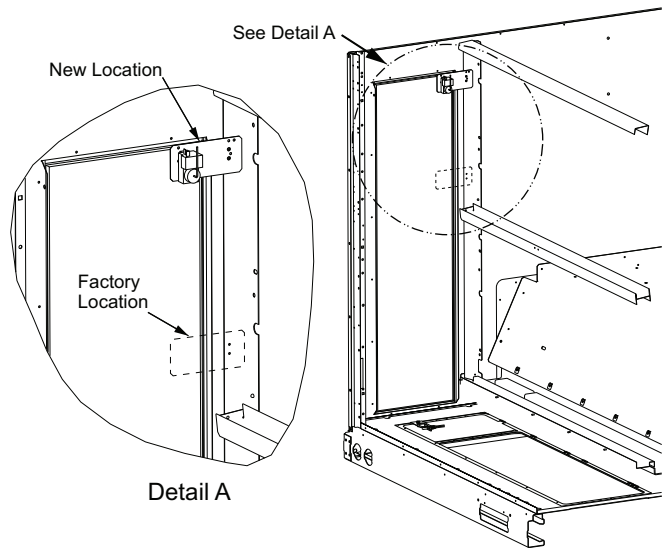

Fig. 5 — Mixed Air Temperature Switch Relocation for Horizontal Units
9. For horizontal installations — Locate Mixed Air Temperature Switch (MTS) with its bracket on left side of the unit. Remove left filter to access MTS bracket screws. Remove screws and relocate the bracket with MTS on the next set of holes up, having the bracket now above the opening of the filter access opening. See Fig. 5.
17. Locate Mixed Air Temperature Switch (MTS) with its bracket on left side of the unit. Remove left filter to access MTS bracket screws. Remove screws and relocate the bracket with MTS on the next set of holes up, having the bracket now above the opening of the filter access opening. See Fig. 5.